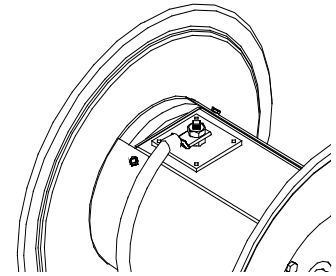

FIGURE 3.0
- Place connector over stud (fig 3.0) and install brass nut (supplied).